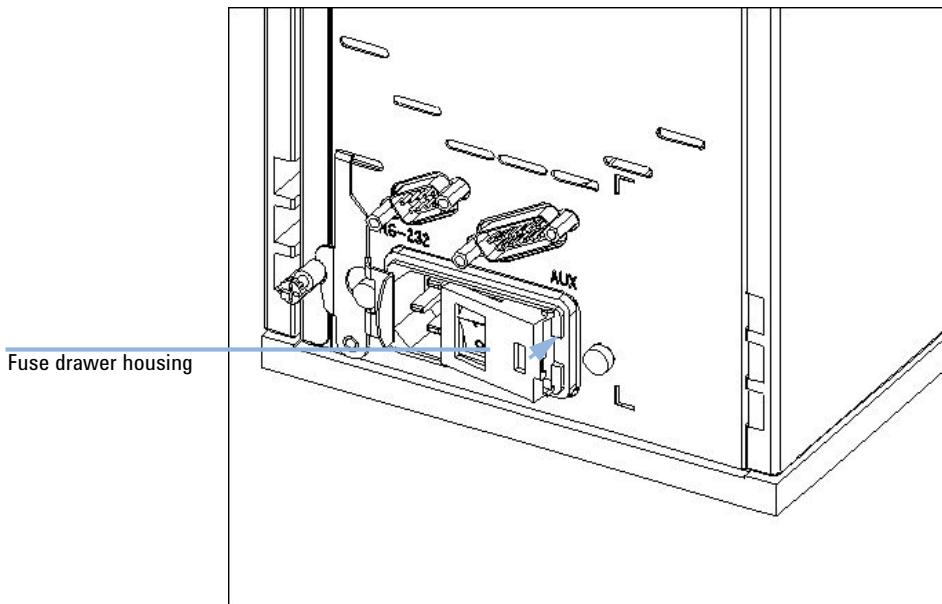

Figure 13 Close fuse drawer housing
- 7 Close the fuse drawer housing (see Figure 13 on page 147), reconnect the instrument to the power line and switch it on.